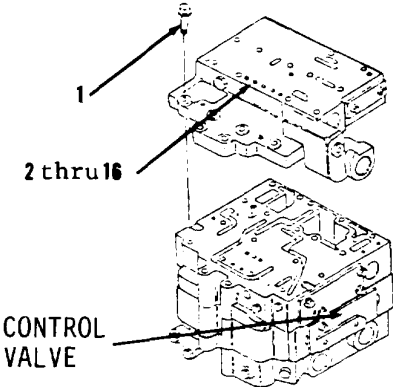
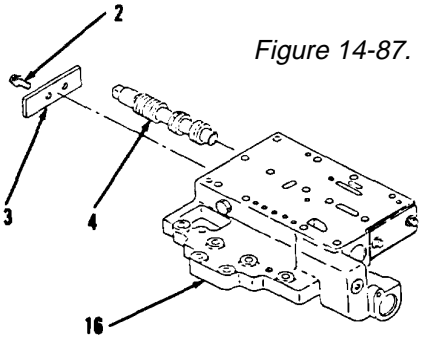
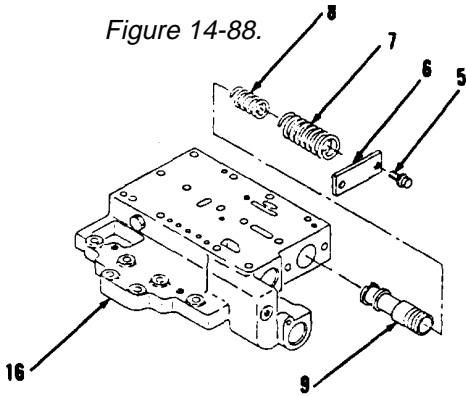
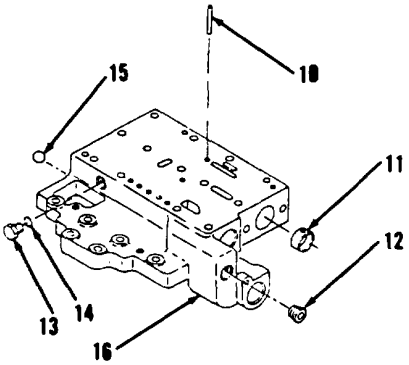

Figure 14-87.
Figure 14-88.
Figure 14-89.
Figure 14-90.
- 1. Remove four bolts (1) and items 2 thru 16 as an assembly (Figure 14-87) from control valve.
- 2. Remove two bolts (2) and plate (3) from body (16, Figure 14-88).
- 3. Remove spool (4).
- 4. Remove two bolts (5) and plate (6) from body (16, Figure 14-89).
- 5. Remove springs (7 and 8) and spool (9).
- 6. Remove dowel (10) and stop (11, Figure 14-90).
1. Install ball (15), new preformed packing (14) and plugs (13 and 12) in body (16, Figure 14-90).
2. Install stop (11) and dowel (10).
3. Install spool (9) and springs (8 and 7, Figure 14-89).
4. Install plate (6) and two bolts (5). Tighten two bolts (5) to 19-25 ft-lb. torque.
5. Install spool (4, Figure 14-88).
6. Install plate (3) and two bolts (2). Tighten two bolts (2) to 19-25 ft-lb. torque.
7. Install items 16 thru 2 as an assembly and four bolts (1, Figure 14-87) on control valve.